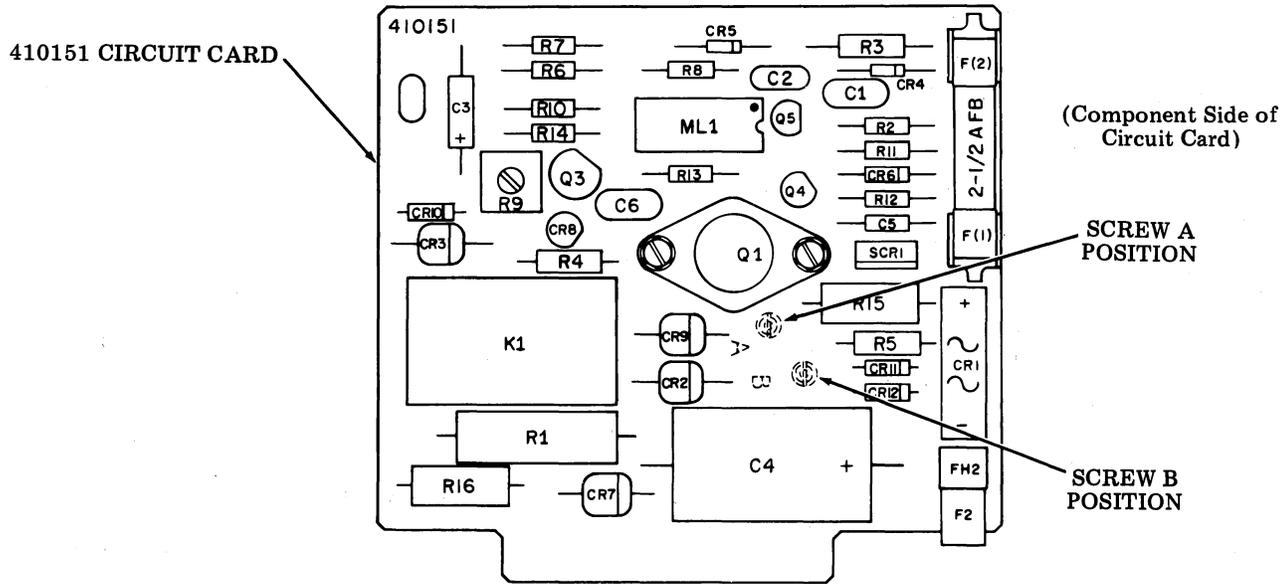

Fig. 107
4.34 Printer options for 410151 circuit card. This paragraph applies only when one of these circuit cards is in a printer: 410071, 410072, or 410729. See Fig. 107.